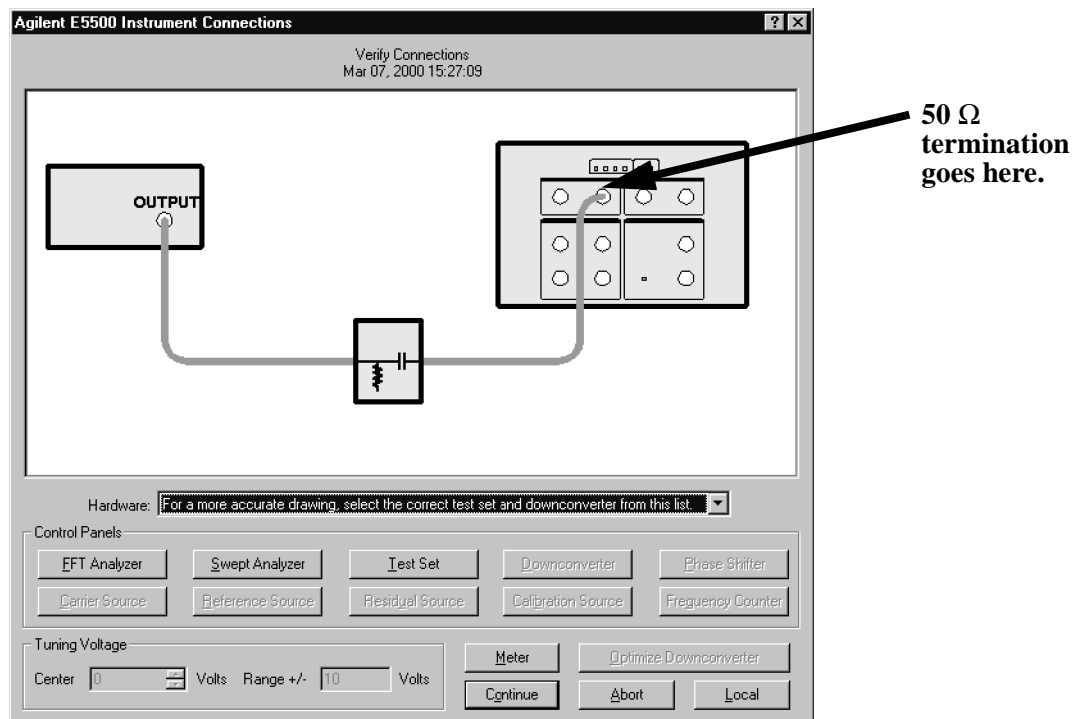

Figure 1-1 System Confidence Test Connection Diagram.
3. When the **Connect Diagram** dialog box appears, connect the 50 Ω termination provided with your system to the Agilent/HP 70420A Test Set's Noise Input connector. (See Figure 1-1.)